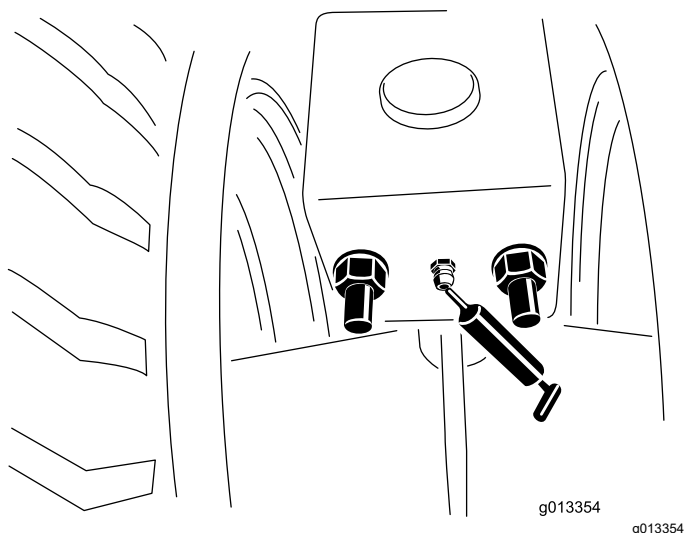

Figure 57
1. Clean the grease fittings (Figure 57).